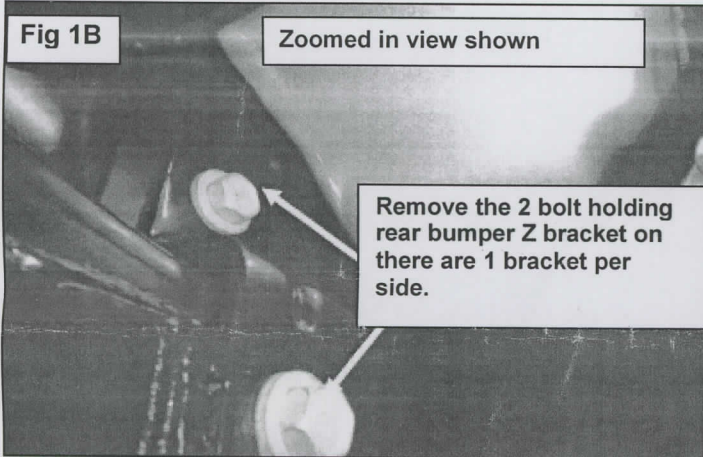

Fig 2
3. With the brackets removed you can now remove the rear bumper. Once the bumper is removed begin to remove the rear tow hook, this will not be reinstalled. (**Fig 2**) shows tow hook removal.